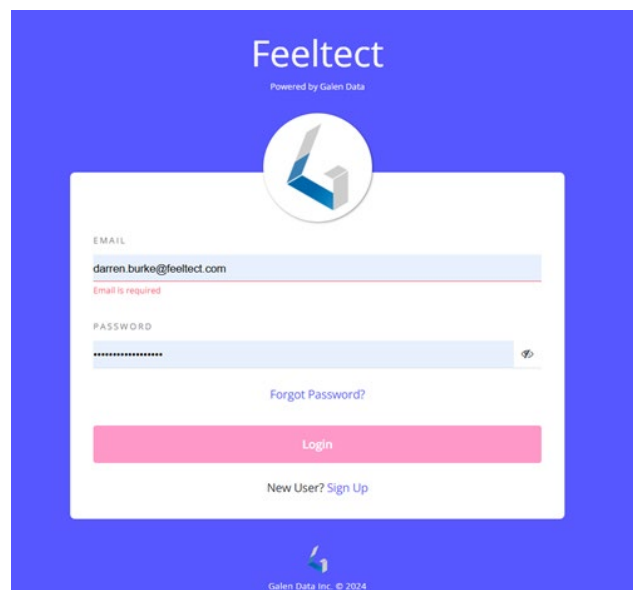

Figure 32. Web App login screen.
- To access data stored on the Cloud Database, access the Web App via <https://feeltect-dev.galencloud.com/login> and enter the username and password you have been supplied with by the FeelTect technical team (Figure 32). Logins are only available to health care professionals.